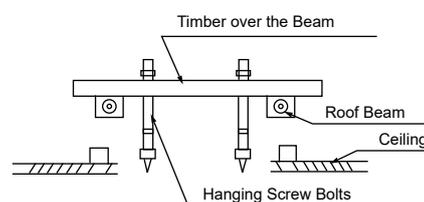

Fig.5-3
- Please Refer to Fig. 5-3 and Fig. 5-4 for the hanging screw bolts distance.